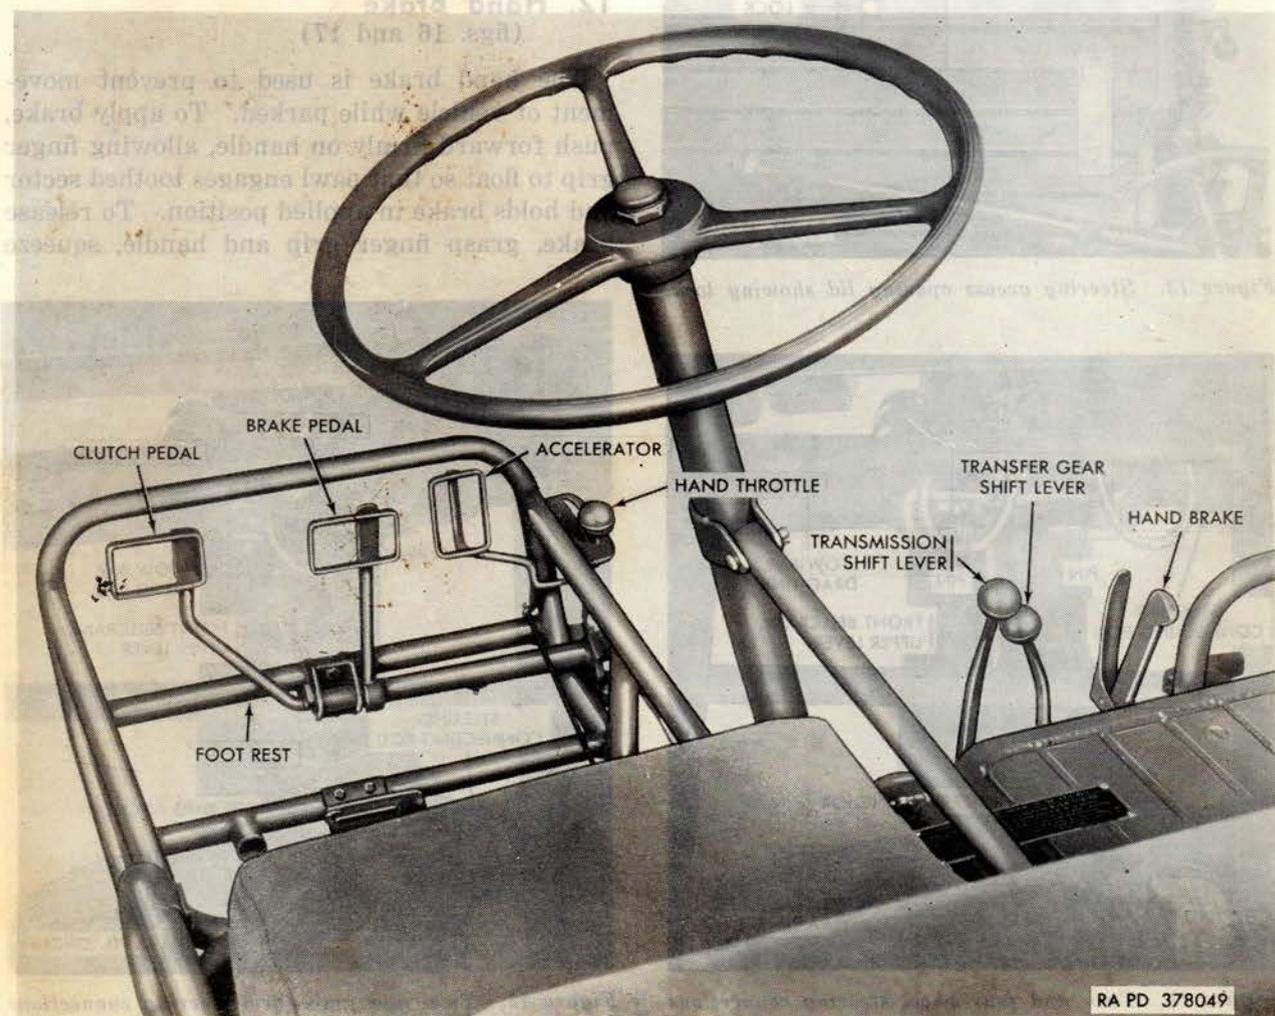
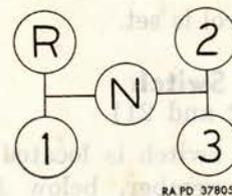

Figure 16. Vehicle controls from driver's position when seated.
Figure 19. Shifting diagram for transmission shift lever.
The transfer gear shift lever (figs. 16 and 17), located at front of platform at driver's right, enables driver to select either a high-speed range for good driving conditions, or a
The transmission shift lever (figs. 16 and 17), located at front of platform at driver's right, shifts transmission gears into reverse and first, second and third speeds forward. From center position or neutral N (fig. 19) movement to left and forward shifts gears into reverse "R." Movement to left and rear shift gears into first or low 1. Movement to right and forward shifts gears into second 2. Movement to right and rear shifts gears into third or high 3.
(figs. 16 and 17)
(fig. 16)
16. Accelerator (fig. 16)